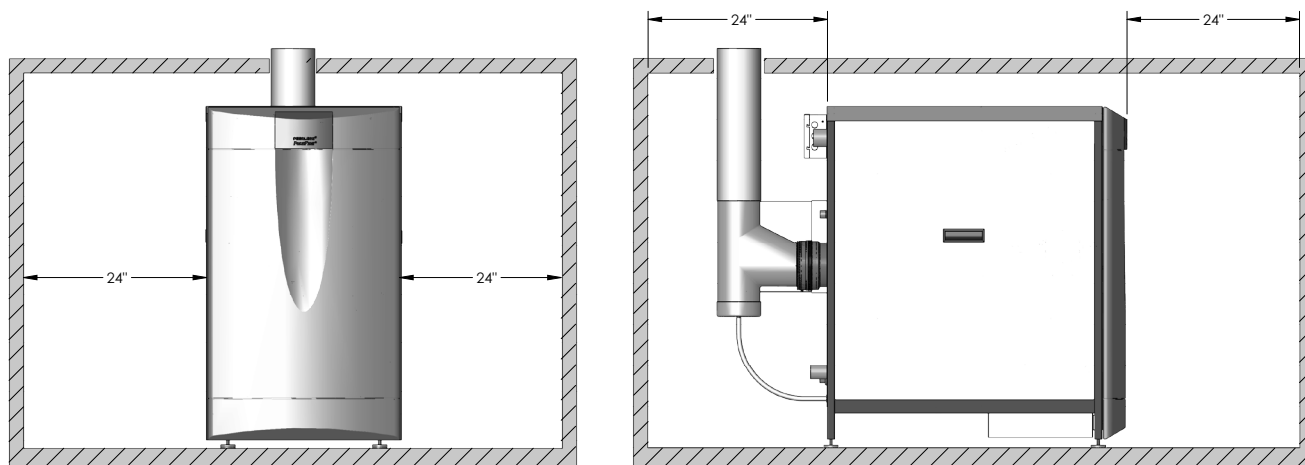

Figure 1.1: Minimum Accessibility Clearances – PFC-625 & PFC-750
2. Figure 1.1 shows the minimum recommended clearances to allow reasonable access to the boiler for inspection and maintenance. However, local codes or special conditions may require greater clearances.